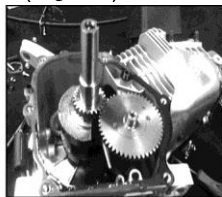

Fig. 13
- b. Position the crankcase packing on the housing (Fig. 13).